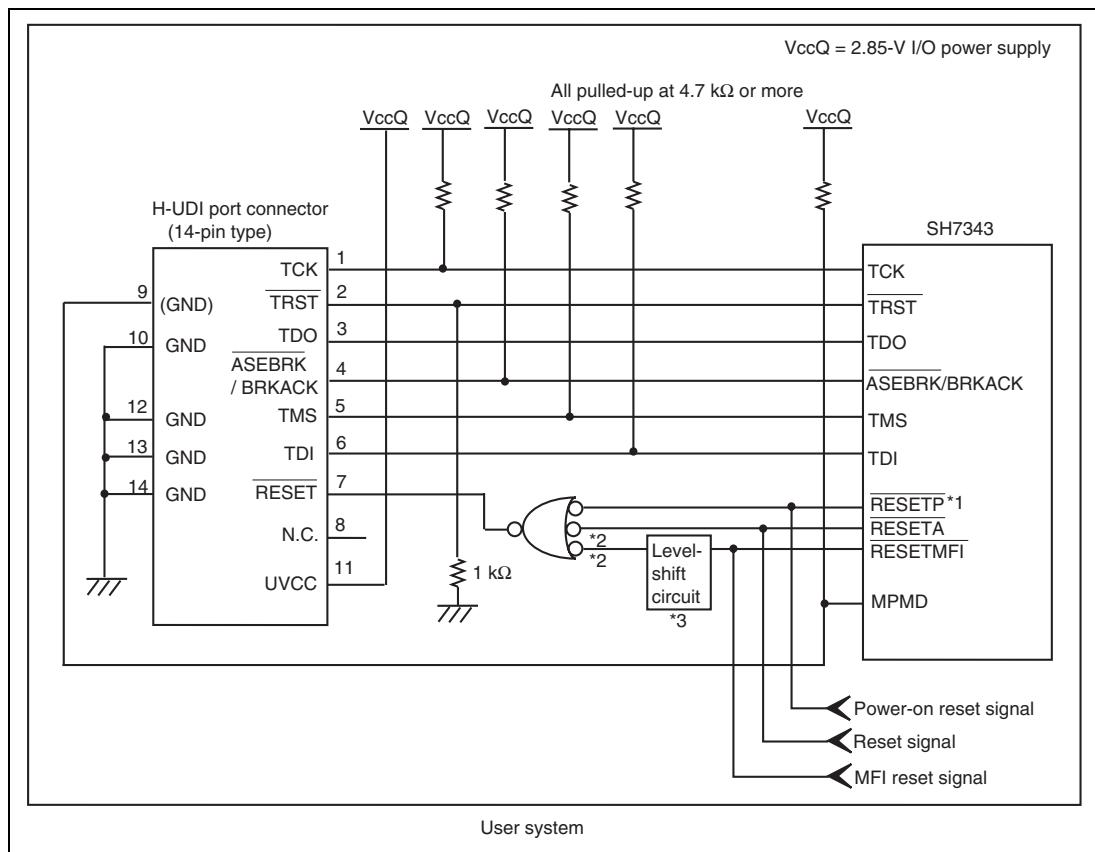

Figure 1.4 Recommended Circuit for Connection between the H-UDI Port Connector and MPU when the Emulator is in Use (14-Pin Type)
5. Connect /RESETP, /RESETA, and /RESETMFI to the user system if required, as shown in figure 1.4.
Figure 1.4 shows a recommended circuit for connection between the H-UDI and AUD port connectors (14 pins) and the MPU when the emulator is in use.
7. The resistance values shown in figure 1.4 are reference.
When the circuit is connected as shown in figure 1.4, the switches of the emulator are set as SW2 = 1 and SW3 = 1. For details, refer to section 3.8, Setting the DIP Switches, in the SuperH™ Family E10A-USB Emulator User's Manual.
3. When VccQ_MFI is used at 1.8 V, the level-shift circuit in figure 1.4 is required to adjust the signal levels.